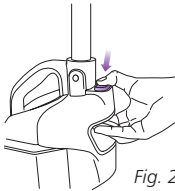

Fig. 24
- 1 To release the vacuum nozzle and change to the steam nozzle, press the top “nozzle release” button. (Fig. 24) Lift the main body up and the vacuum nozzle will be released. You may need to apply gentle pressure to the nozzle head with your foot to separate the two parts.